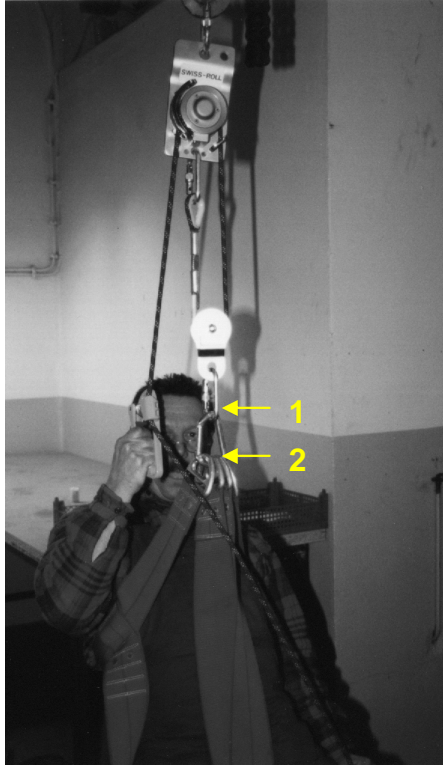

Abbildung 30
4.6.2. Self raising and lowering (Abb. 30 und 31)
2.1. For rescue (Abb. 30)
2.1.1. Hang the seat harness rings on the load rope carabine (1) (Abb. 30).
2.1.2. Hang the carabine of the rope stop unit (2) on the load rope carabine (Fig. 30)